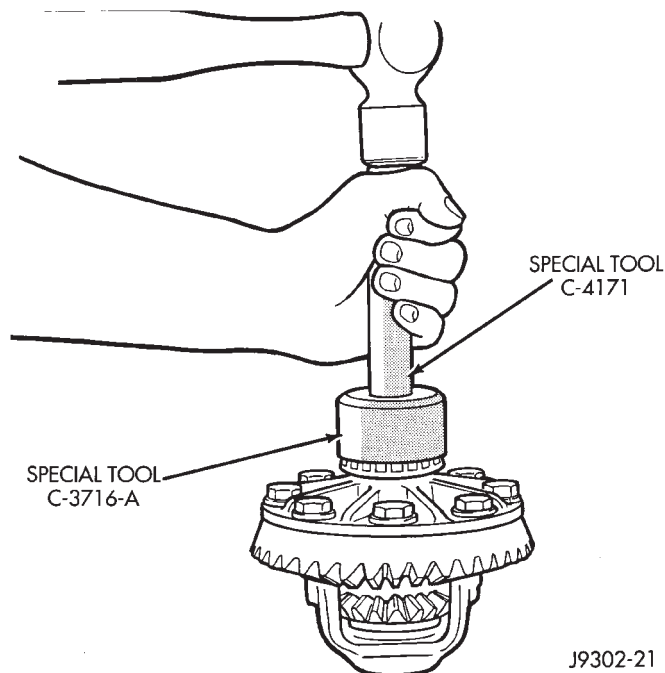

Fig. 49 Differential Bearing Installation
ing on the hub with Bearing Installer C- 3716A and Driver Handle C-4171 (Fig. 49).
(9) Position the remaining zero end-play shims on hub at opposite side of case. Include an additional 0.015 in. (0.38 mm) thick shim on this hub. This will provide the required differential bearing preload.
(10) Install bearings on hubs with Installer C-3716A and Handle C-4171 (Fig. 49).
(11) Match each bearing cup with bearing (original). Install the cups on the bearings.